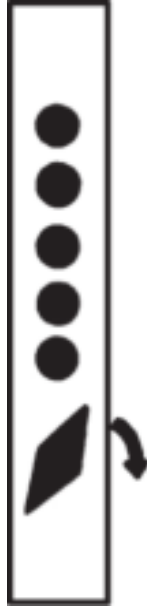

**Figure 18.7** Changing Simplex combination, Step 6.
6. Turn the control arm right to set the new sequence (Fig. 18.7 ).